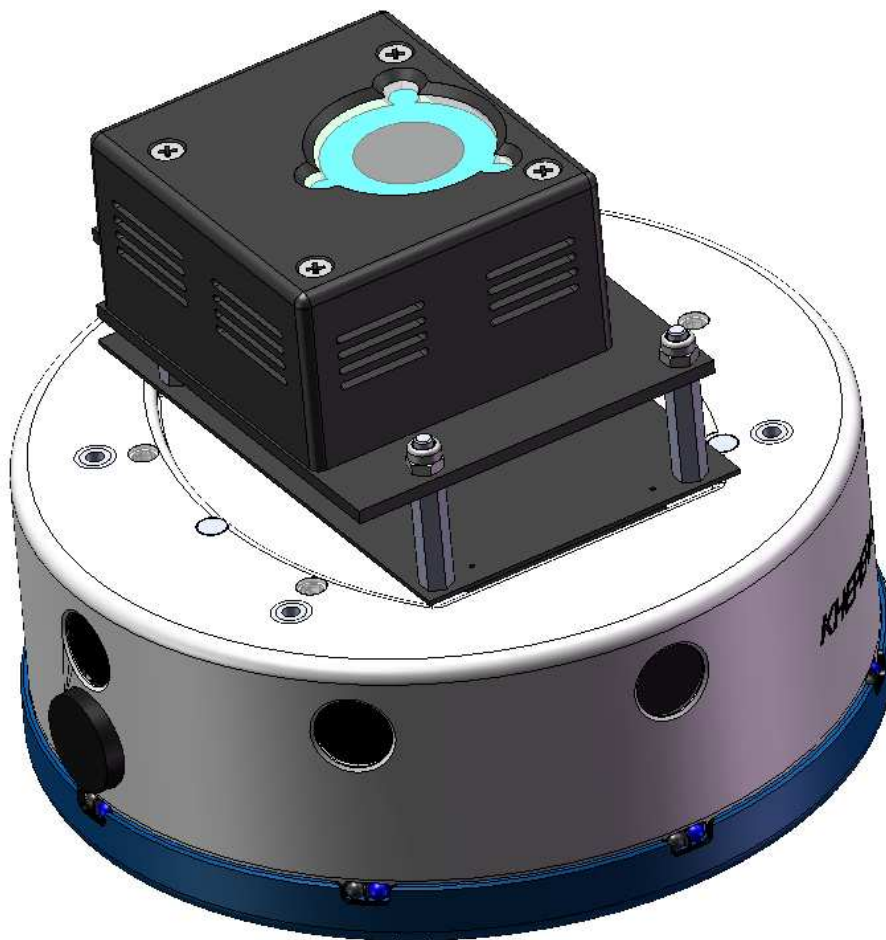

Figure 3: Assembly
- The assembly of the board with the robot is depicted in Figure 3.